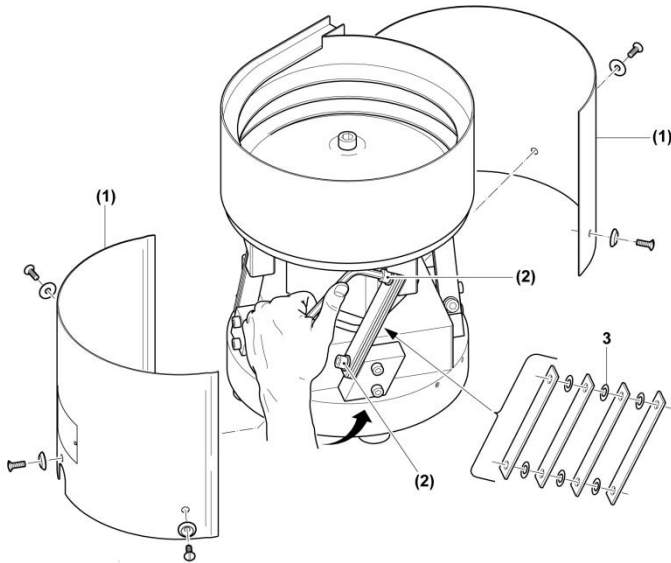

Figure 16
1. Remove the casing (1) (see Figure 16)